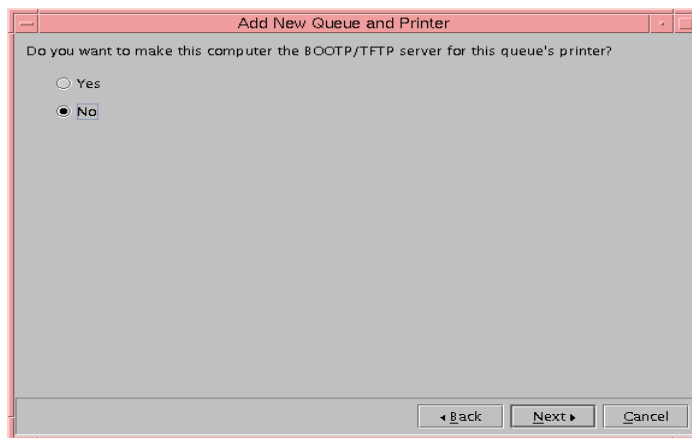

Figure 78. JetDirect-attached - BOOTP/TFTP selection
7. Because we could enter and store the IP address information at the printer console, we did not need to make our system the BOOTP server. If you are using a JetDirect multi-port device, you may need to select **Yes** in the panel shown in Figure 78. Refer to the JetDirect documentation for